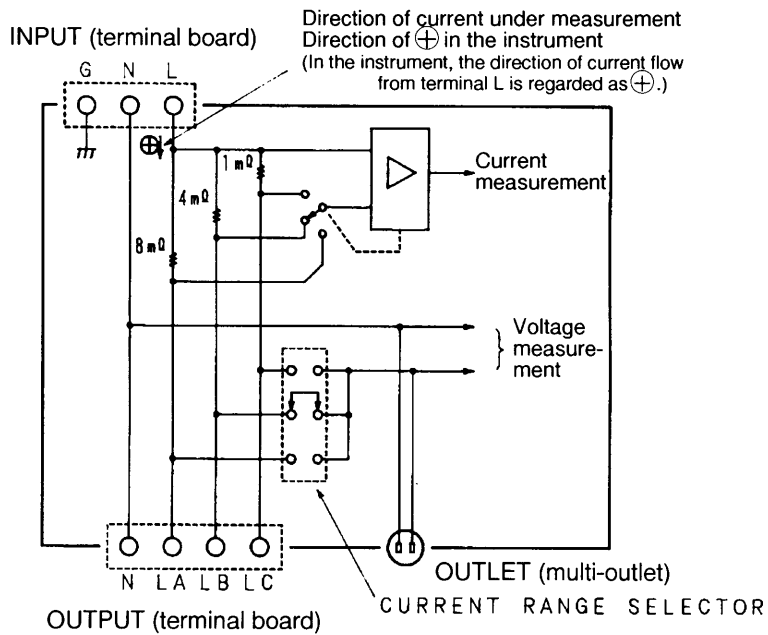

Fig. 2-1 Principle of Current Detection
Figure 2-1 shows the principle diagram of current detection in the current sensor.
- As shown in Fig. 2-1, Principle of Current Detection, the CURRENT-RANGE SELECTOR is used to select the current-detecting resistor. It also switches the input of the terminal voltage measurement of the equipment under test.